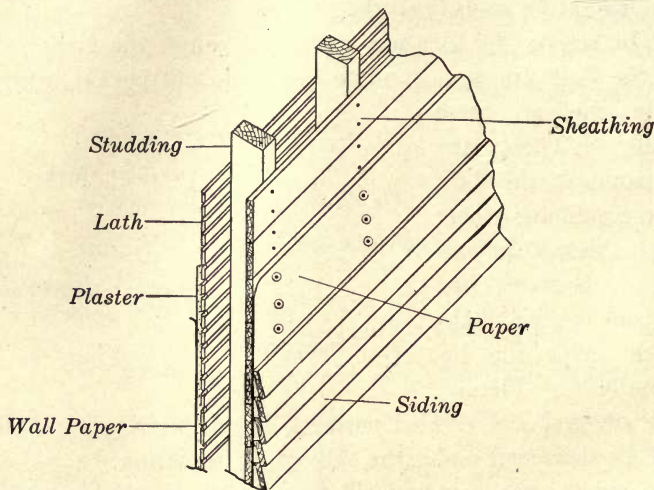

FIGURE 30.—CROSS SECTION OF THE WALL OF A HOUSE.
54. Walls of Houses.—Walls of houses are so constructed that they do not allow the heat to pass through them readily. Either brick, stone or lumber is used. The lumber-made house is constructed as shown in Figure 30.